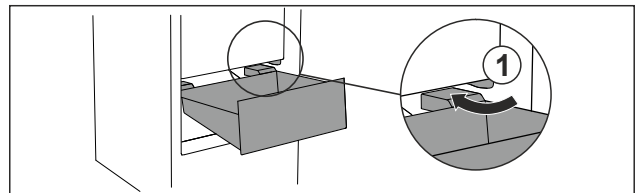

Fig. 80
- ▶ Guide drawer in at an angle around the stoppers Fig. 80 (1).